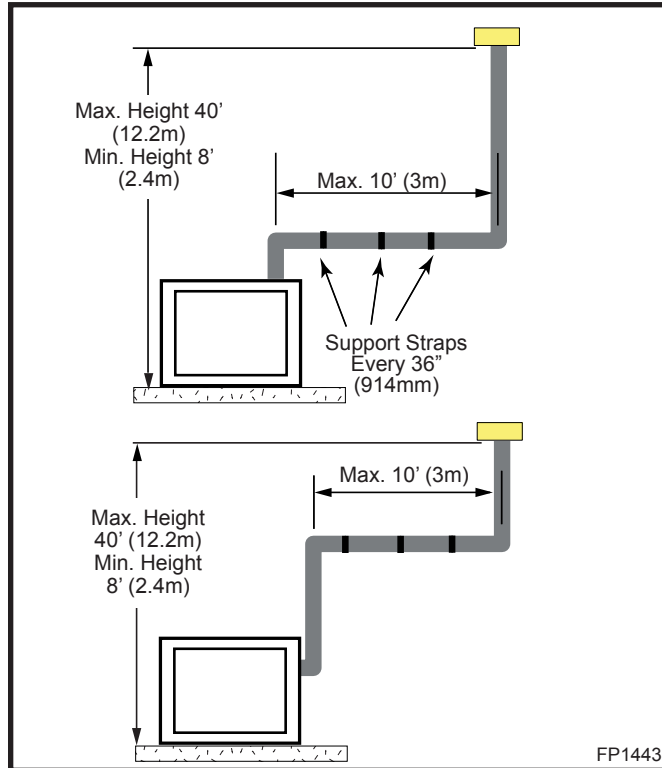

Fig. 30 Support straps for horizontal runs.
- Vertical installations up to 40' (12 m) in height. Up to a 10' (3 m) horizontal vent run can be installed within the vent system using a maximum of two 90° elbows. (Fig. 30)
- Two (2) sets of 45° elbow offsets may be used within the vertical sections. From zero to max 8 ft. (2.43 m) vent pipe can be used between elbows. (Fig. 30)